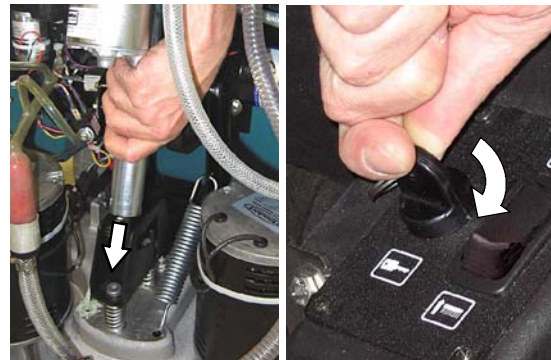

FIG. 8
- 4c. This step may require an assistant. Firmly grip the actuator tube with your right hand and turn on the key with your left hand (Fig. 8). As the tube begins to extend, guide it down into the mounting bracket. Turn off key.